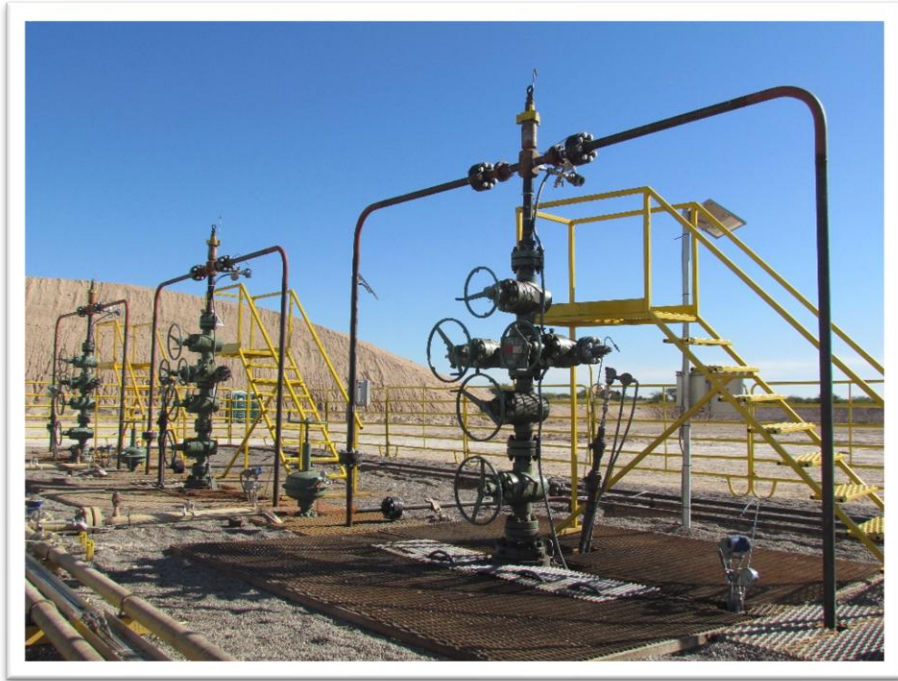

Figure 6: Christmas tree – Jet pump retrieving manifold assembly
- Christmas tree – retrieving manifold assembly: Similar to a slickline lubricator, it is a manifold-piping installed to the well Christmas tree. By means of piping and valves, it enables the user to reverse the power fluid injection circuit, to eject the jet pump from its cavity, and circulate it up the tubing to the surface. The lubricator also allows to safely reinsert the jet pump in the tubing string. See figure 6.